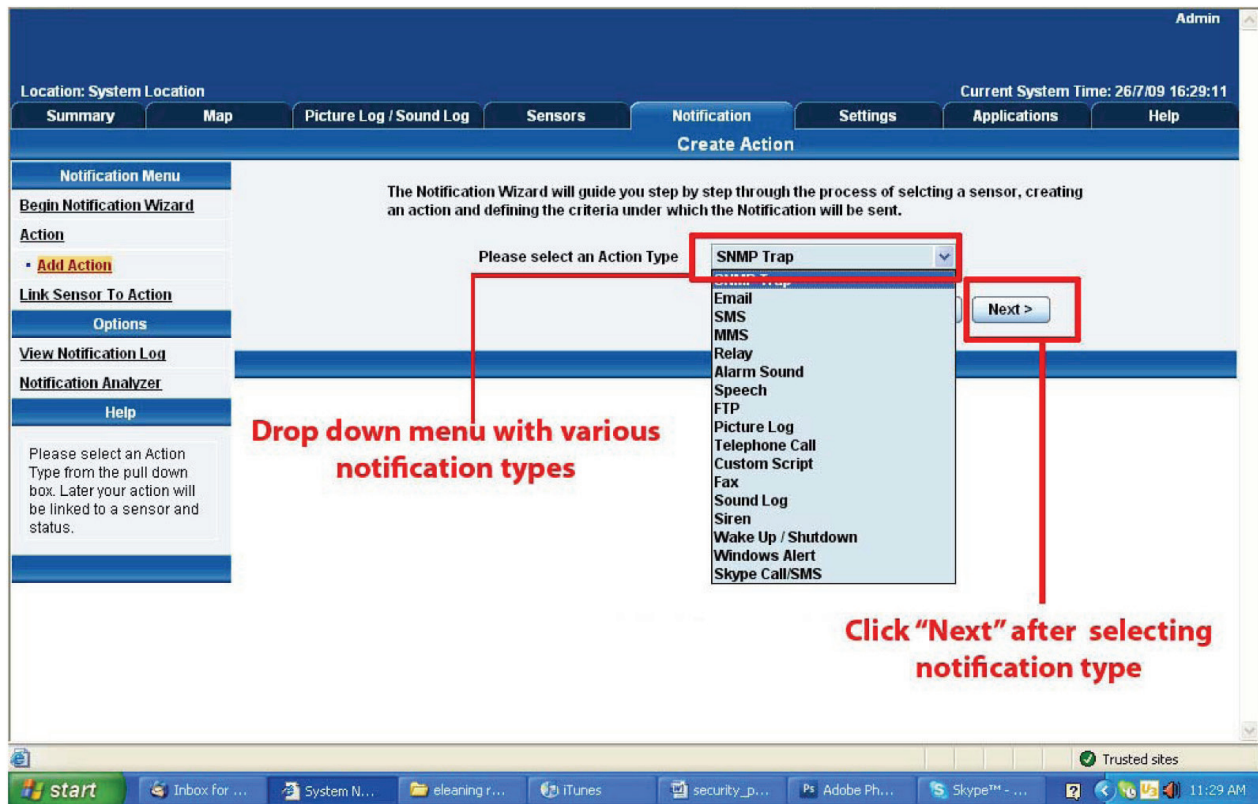

Figure 4-2. Notification Wizard page.
4. The notification wizard page (see Figure 4-2) is displayed.